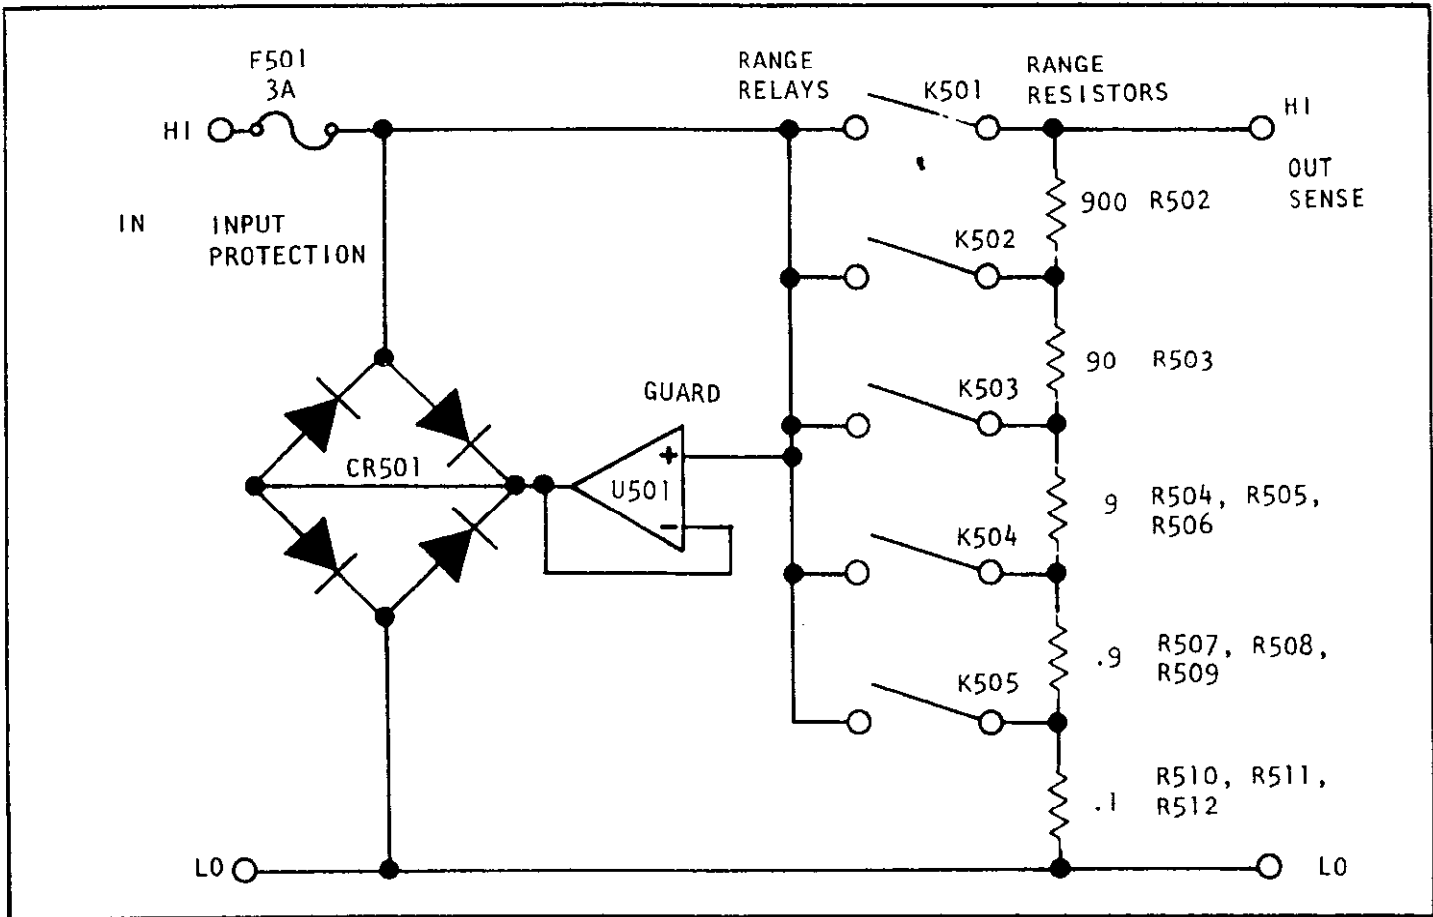

FIGURE 5-5. Simplified Schematic of 173A I/V Converter.
1) Model 173A I/V Converter. The converter is shown on the simplified schematic (Figure 5-5). An input current is converted to a voltage directly proportional to the input current by measuring the voltage drop across a resistance placed in series with the current. This is accomplished by closing the appropriate range relay (K501 through K505) to give an output voltage between 0 and 300 millivolts. For example: Consider that K503 is closed. The current will now flow through  $9\Omega + 0.9\Omega + 0.1\Omega = 10\Omega$ , and  $30mA = 300mV$ . Since a dc current is converted to a dc voltage and an ac current is converted to an ac voltage, the output of the I/V converter is routed through either the DC attenuator circuit or the AC/DC converter before being applied to the A/D converter. Signal routing is controlled by the DC/AC pushbutton and the gains employed are the same as those given in Table 5-2 for the 300mV range. Input protection for the I/V converter consists of a 3 ampere medium acting fuse (F501) and a diode bridge (CR50). The fuse is rear panel accessible. CR501 limits the voltage to 2 diode drops in either positive or negative polarity. Unity gain buffer amplifier U501 guards the center connections of the diodes so that less than one digit error is introduced on the 300 $\mu$ A range, which has 10 nanoampere sensitivity. Refer to Schematic 27478D for the remainder of this discussion. Range control lines (A, B and C from LSI chip U901) autorange the Model 173A current function. The lines are decoded by the BCD to decimal decoder U502 (See Table 5-3). The output from U502 turns on the applicable relay driver transistor to energize its range relay. Diodes are used to block the range lines when -12V is applied and input dividers are used to drop +8V to +5 volts for application to U502. Spike suppression diodes are used across the relay coils to prevent damage to the relay drivers. Potentiometers R506, R509 and R512 provide adjustments for calibrating the I/V converter. With the exception of the fuse, all of the I/V converter circuitry is physically located on current PC-406 and shown on Component Layout diagram 27884C in Section 7.